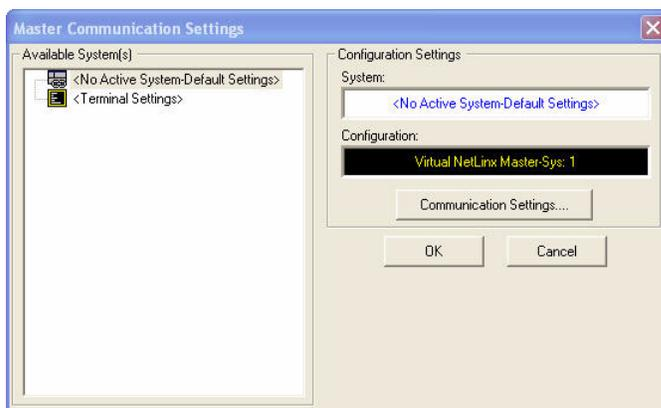

FIG. 13 Master Communication Settings dialog
2. Select **Settings > Master Communication Settings**, from the Main menu, to open the Master Communication Settings dialog (FIG. 13).